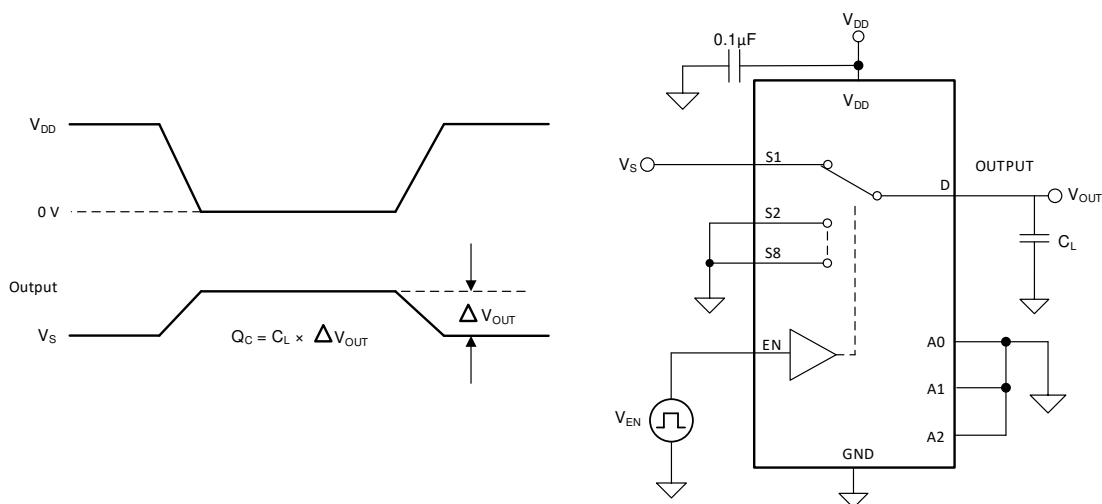

图 7-7. Charge-Injection Measurement Setup
The TMUX1208-Q1 has a transmission-gate topology. Any mismatch in capacitance between the NMOS and PMOS transistors results in a charge injected into the drain or source during the falling or rising edge of the gate signal. The amount of charge injected into the source or drain of the device is known as charge injection, and is denoted by the symbol Q_C . 图 7-7 shows the setup used to measure charge injection from source (S_x) to drain (D).